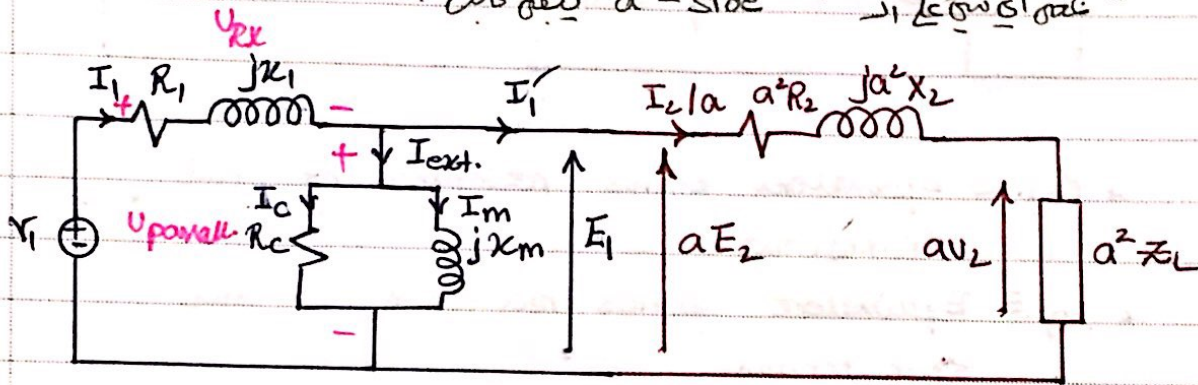

Fig. 1
* Fig. 1 is the exact equivalent cct. of the transformer.